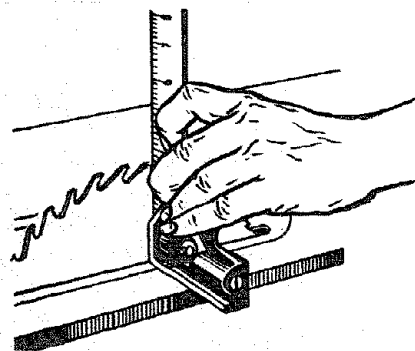

Figure 6
- (1) With the saw blade in deepest cut position, check the tilt position of the saw blade by attempting to rotate the tilt hand-wheel clockwise until it will rotate no farther.
- (2) Place a square on the table top and against saw blade. (See figure 6.) The blade should be at exactly 90 degrees (perpendicular) to the table-top surface. (Make sure the square is resting against the flat surface of blade and is not being held away by the "tooth-set" of the blade.)
- (5) Rotate the tilt hand-wheel clockwise until the saw blade is perpendicular to the saw table—measuring it with the square, as shown in figure 6.
- (7) Rotate the tilt hand-wheel counterclockwise approximately three turns, then rotate it clockwise until it stops. Check the saw again with the square as shown in figure 6. If the adjustment is correct (blade square with table surface), tighten the set screw in the stop collar securely.